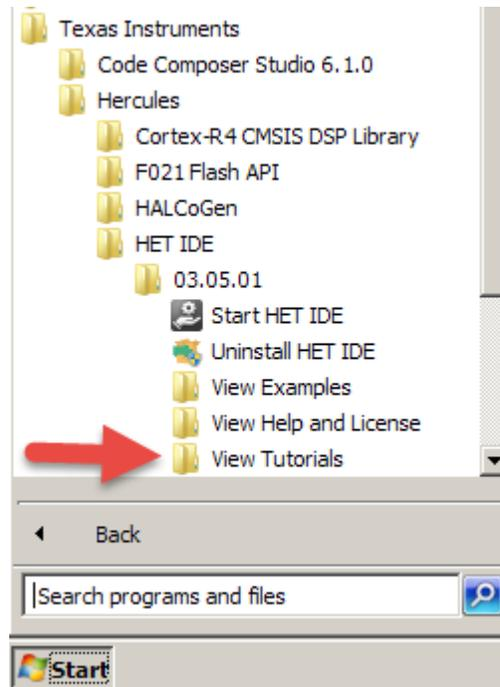

Figure 1. Shortcut to Tutorials Installation (Read Only) Folder
The HET IDE installer places the tutorials in the "%PROGRAMDATA%\Texas Instruments\Hercules\HET IDE\<version>\Tutorials" folder. This folder may be hidden, so the installer also places a shortcut to open the folder in windows explorer in the start menu (see Figure 1). The installation folder is read-only and is shared by all users, so make a personal copy of the tutorials folder in your own directory location before continuing. In the following instructions, your copy of the HET IDE tutorials is referred to with the path <your_copy>.
1. Double click the "Start HET IDE" icon on the desktop, or from the start menu location shown in Figure 1.